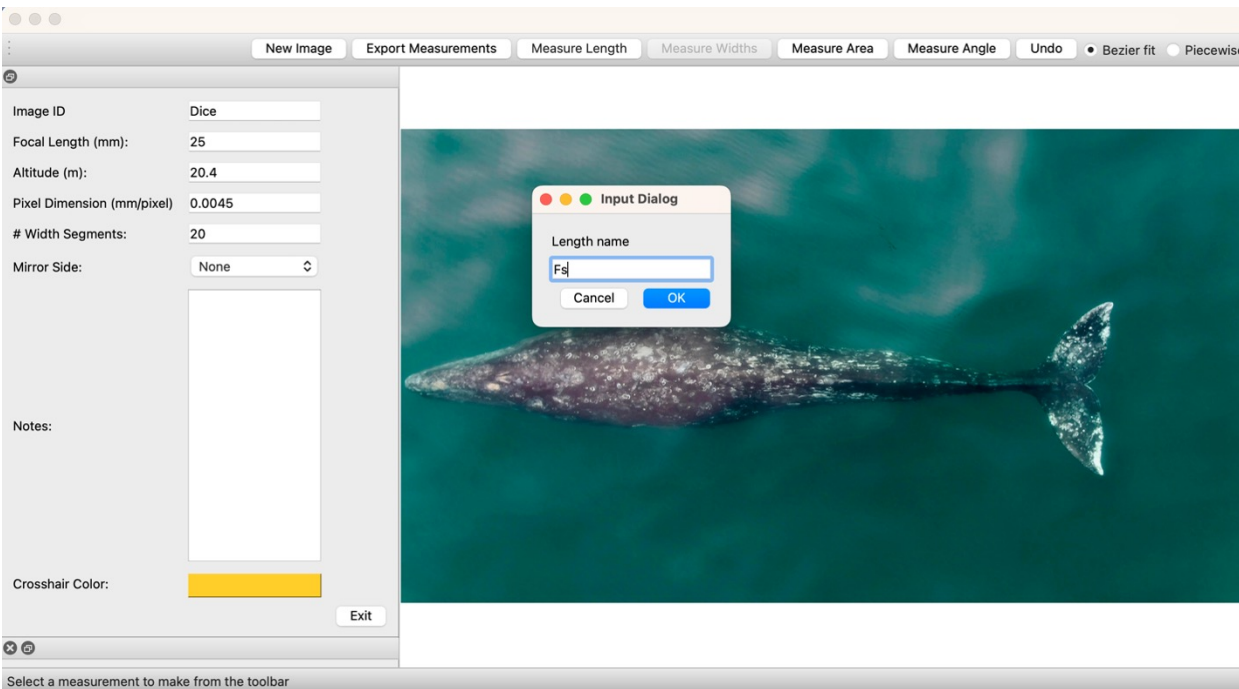

Figure 7. Label for an additional length measurement, here "Fs" for "fluke span".
- You can continue to make other length measurements by selecting “Measure Length” and assigning a new label, i.e., “Fluke Span”, or “Fs”, etc. (Figure 7, 8).